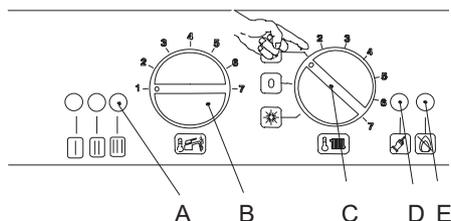

Figure 15.2
- Turn the function selector B as in Fig. 15.2. The appliance operation light A will flash every 2 seconds.
To reset the boiler turn the knob C (figure 15.2) on the 0 position and then press and release the boiler reset button D (Fig. 15.2).
With the burner on high fire close the gas cock. After three ignition attempts (within about three minutes), the lock-out signal lamp must appear (D on Figure 15.2). To reset the boiler turn the knob B (figure 15.2) on the 0 position and then press and release the boiler reset button (C on Figure 15.2).